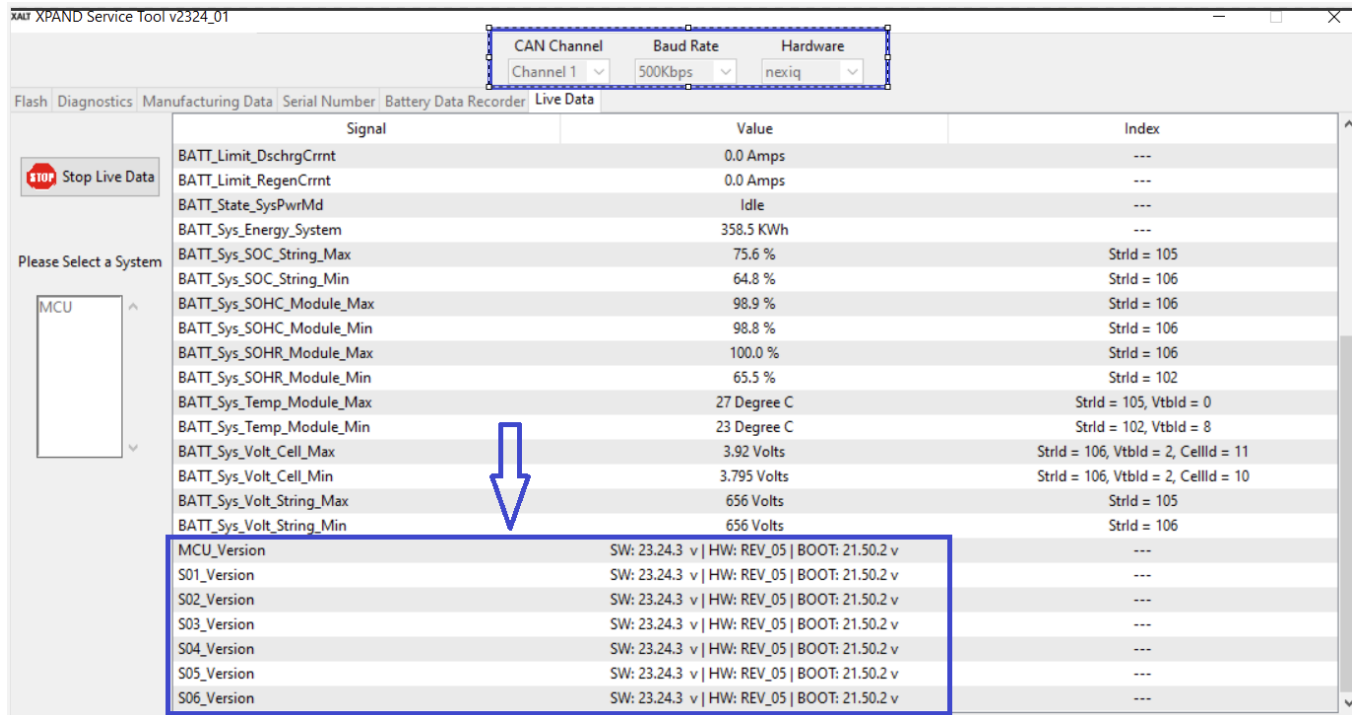

Fig 1: XST to verify the software and bootloader
- 4.6. Under the Live Data tab, you can find the current software version flashed on to the MCU and SCU at the bottom as shown in fig 1.